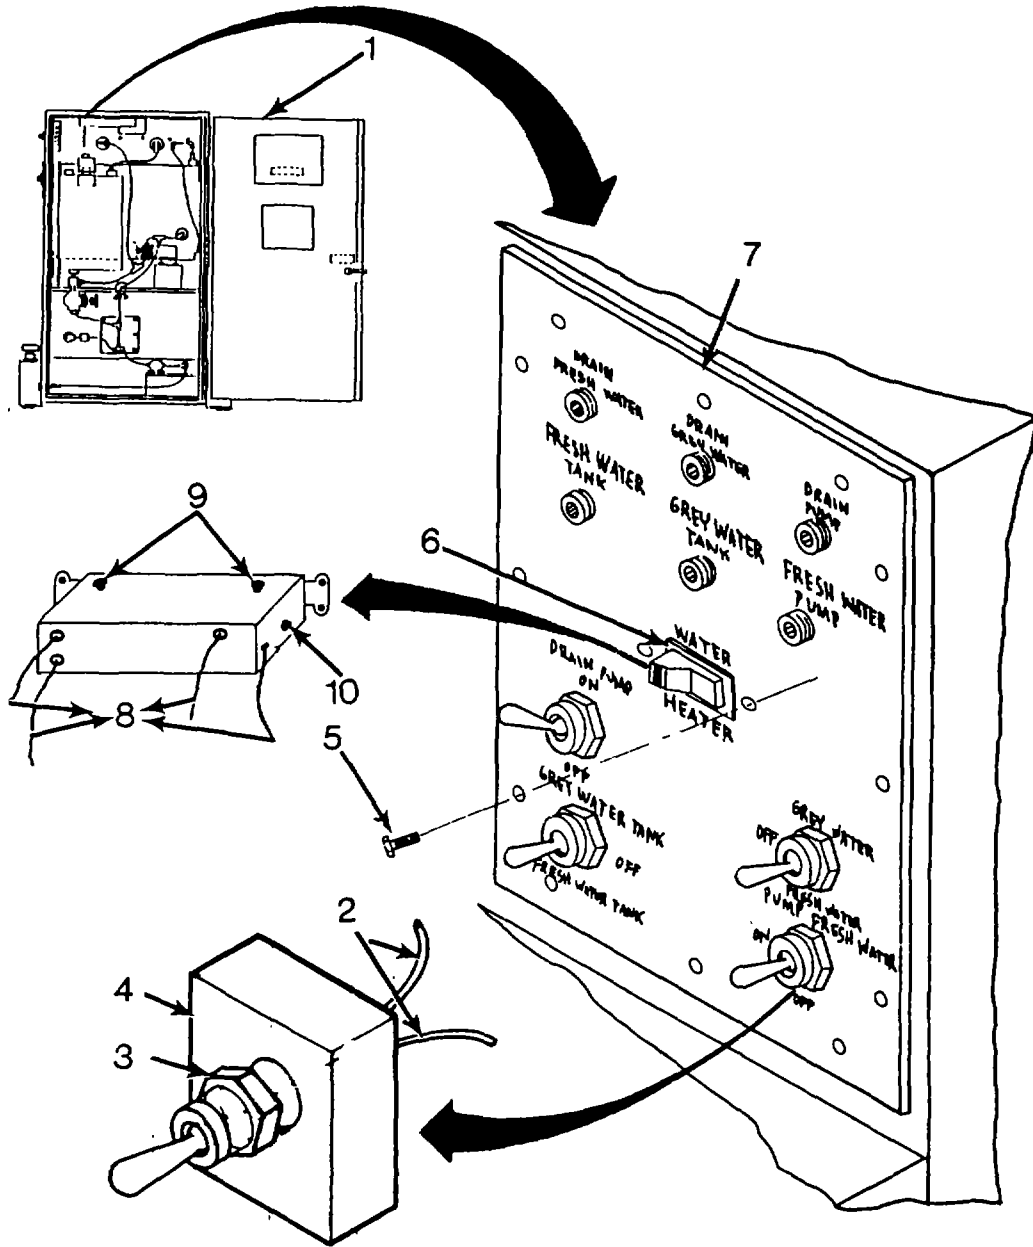

Figure 4-21. Replace Switch
- (7) Remove pump (12), remove brass fittings (13), and repair pump if necessary. (See paragraph 4-22.L. below.)
- (8) Cut and strip cord (14) on new pump (12) to same length as old pump cord (14) and attach terminal lugs to green and white wires (6).
- (9) Install brass fittings (13) on new pump (12).
- (10) Place new pump (12) in position.
- (11) Install screws (8), flat washers (9), lockwashers (10), and nuts (11) holding pump in place.
- (12) Connect green and white wires (6) to terminal board (7).
- (13) Solder wire (4) to switch 52 (5) and attach tie straps.
- (14) Attach hoses (3) and clamps (2).
- (15) Close rear door (1).
- (16) Turn power on and test operation.
- d. Repair by replacing Toggle Switch. (Refer to figure 4-21.)
- (8) Close rear door (1).
- e. Repair by replacing water heater switch. (See figure 4-21.)